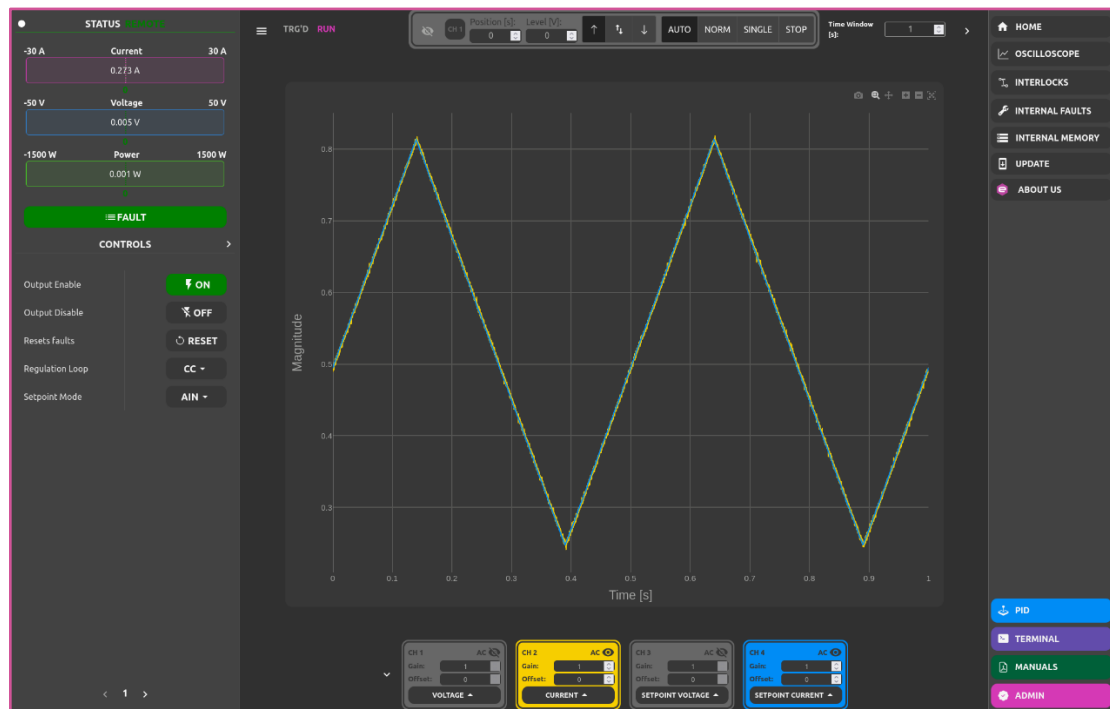

Figure 10: Analog input setpoint mode.
5. The PS output should follow the input signal (setpoint), as reported in **Figure 10**;